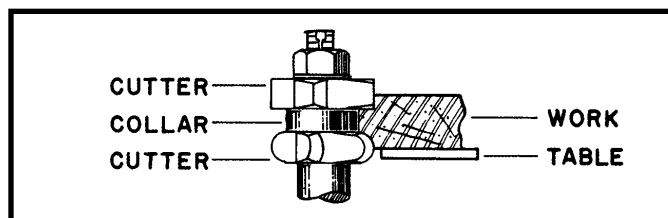

Fig. 33
4. The collar between cutters method (Fig. 33) utilizes the advantages of the first two methods and is frequently used when both edges of the workpiece are to be shaped.